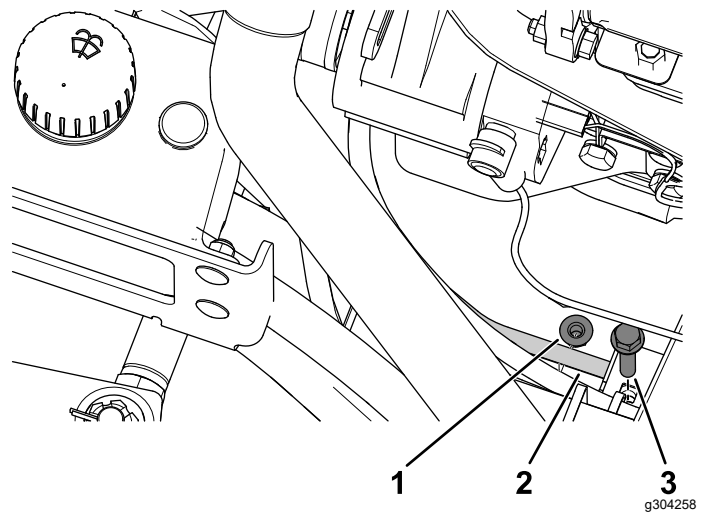

Figure 32
12. Remove the bolt and nut from the hydraulic-line mount (Figure 32).